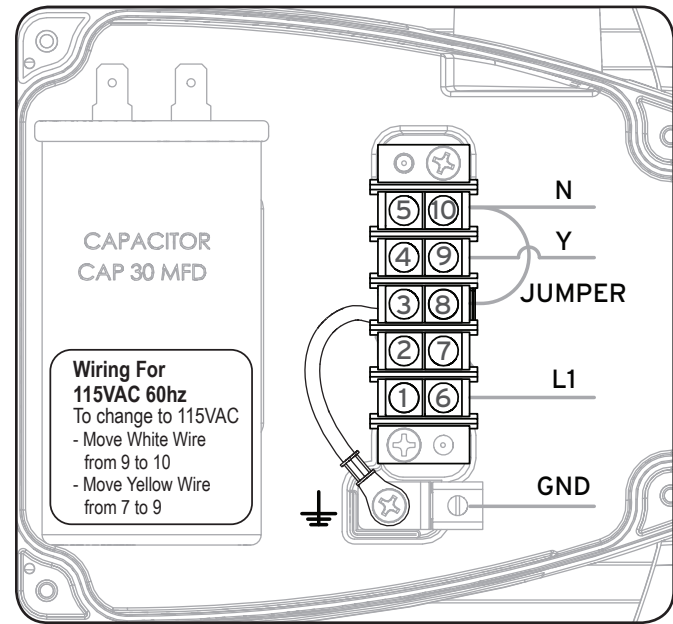

Figure 6. Wiring For 115VAC
3. Rewire factory wiring and wire supply according to Figure 6.
4. Secure flexible conduit to conduit connection port with a 1/2" conduit elbow or comparable conduit connection. See Figure 6. Be careful not to damage or abrade any of the wiring.